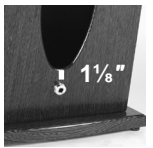

Figure 1 – Prop up the harp
1. Lay your harp so the soundboard is parallel to the floor, with the sound-holes facing up (see figure 1). It is important to get the soundboard as level as you can. Prop your harp up securely, with a carpet or other padded surface under the pillar and the base.